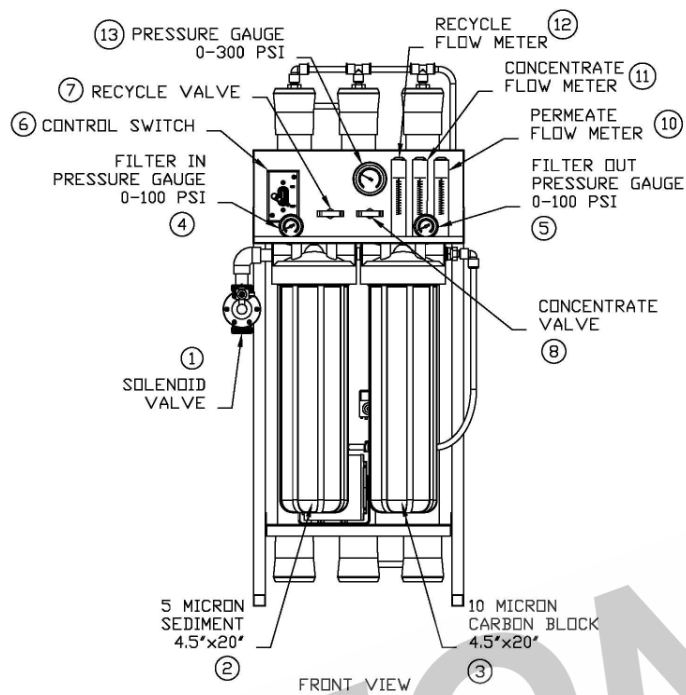

FIGURE 1B
2. Fully open the concentrate valve #8 (counter clockwise). (Figure 1B, Page 14)
3. Fully close the recycle valve # 7 (clockwise) (if applicable). (Figure 1B, Page 14)
5. Turn the feed water on and let the system purge until no visible bubbles appear from concentrate flow meter #11. (Figure 1B, Page 14)
3. Fully close the recycle valve # 7(clockwise)(if applicable). (Figure 1B, Page 14)